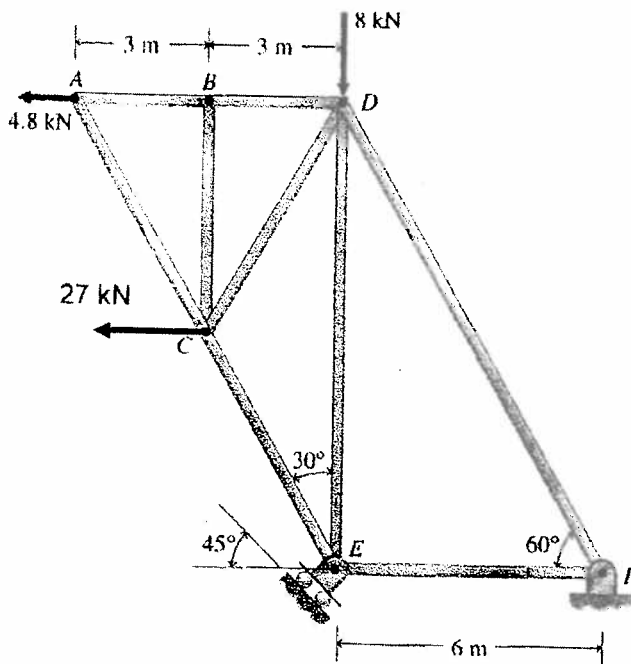

Fig. 2
16. Find the forces in the members BD, BC and CD for the pin jointed truss loaded as shown in Fig. 2.